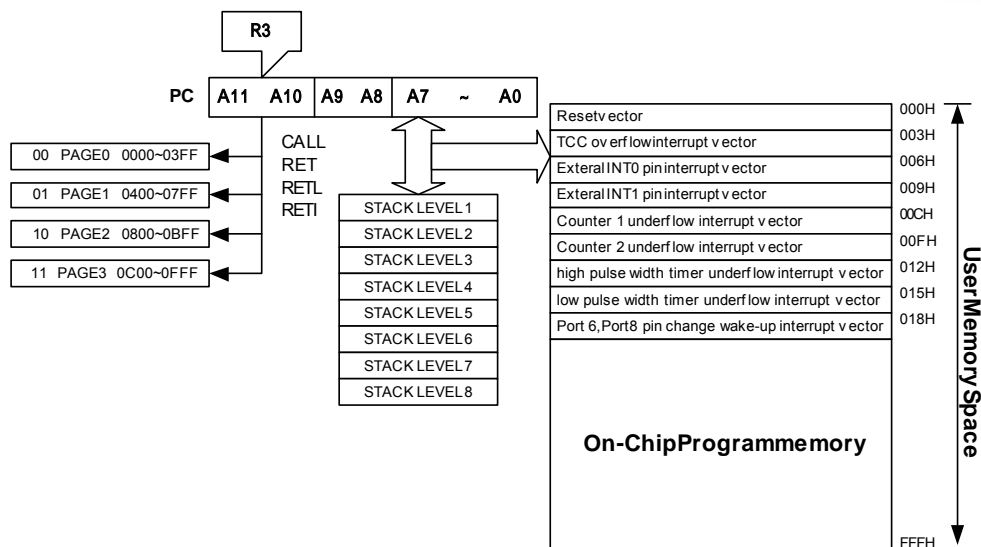

Fig. 3 Program Counter Organization
* The structure is depicted in Fig. 3